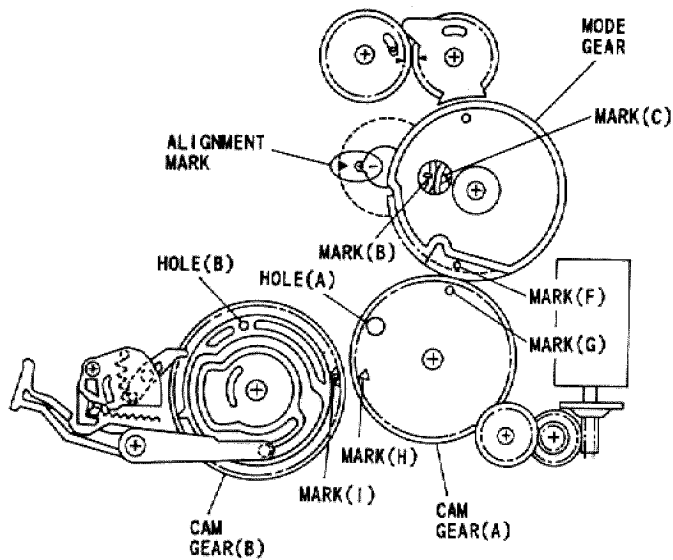

Fig. 6-23
- 1) Align mark (G) on cam gear-A and mark (F) on the mode gear. (See Fig. 6-23)
- 2) Align the arrow on the sensor P.C.B and arrow (No.1) on the mechanism state switch. (See Fig. 6-23)
- 3) With the above conditions, align mark (B) on the mechanism state switch and mark (C) on the mode gear. (See Fig. 6-23)
- 1) Align hole (A) in the cam gear-(A) and the hole in the chassis.
Also align mark (G) on the cam gear-(A) and mark (F) on the mode gear. (See Fig.6-23)
- 3) Align mark (I) in the cam gear-(B) and mark (H) on the cam gear-(A). (See Fig. 6-23)